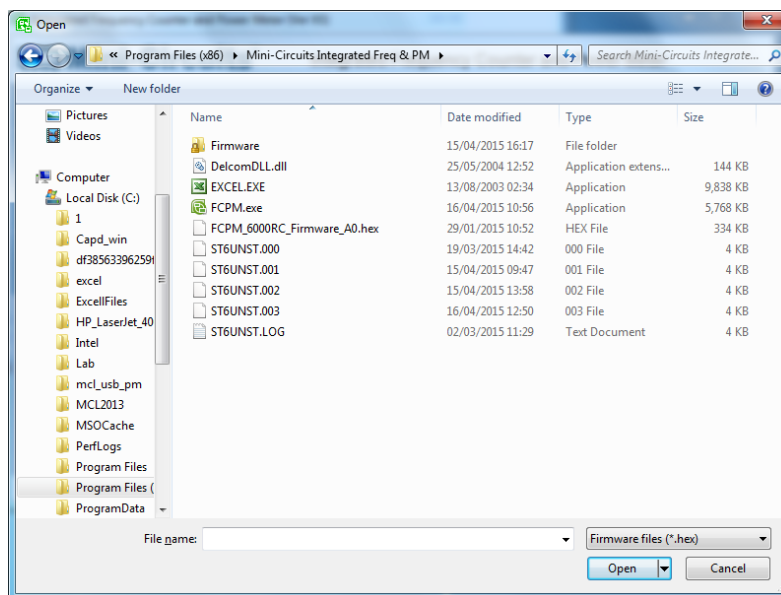

Figure 3.7.4: Firmware - Browse Window
3.7.4 Clicking on the 'Update Firmware' will open a browse window to the firmware directory under the path you selected when installing the GUI program (See **Fig. 3.7.4**). Navigate to where you saved your firmware file in **section 3.7.1**, Select the firmware version you wish to install and click 'O.K'.